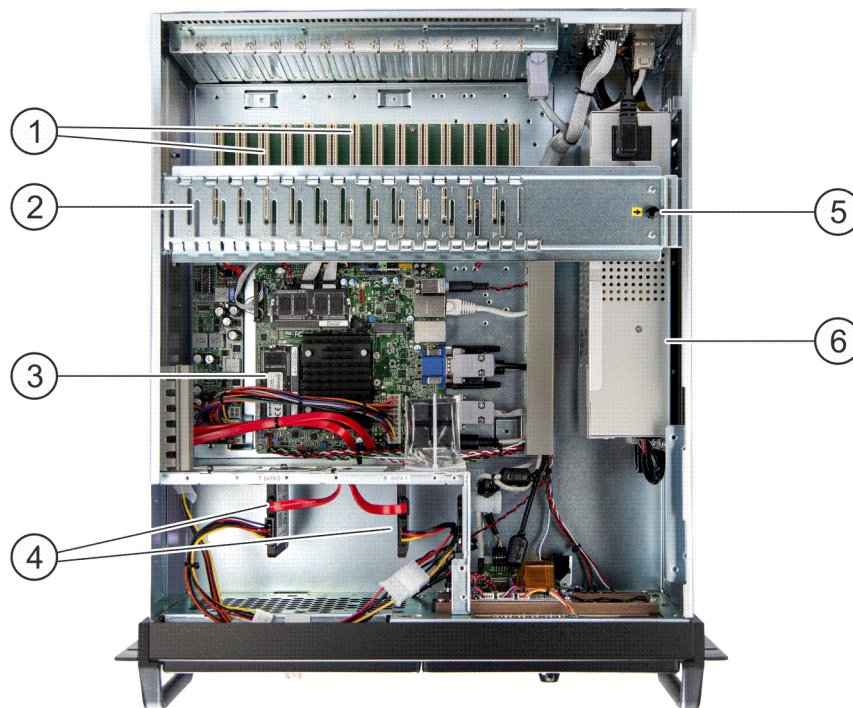

Fig. 4. STAM-IRS device with its enclosure top cover removed.
Explanation for Fig. 4:
4. Unlock the metal rail (shown as item 2 in Fig. 4) and remove it.